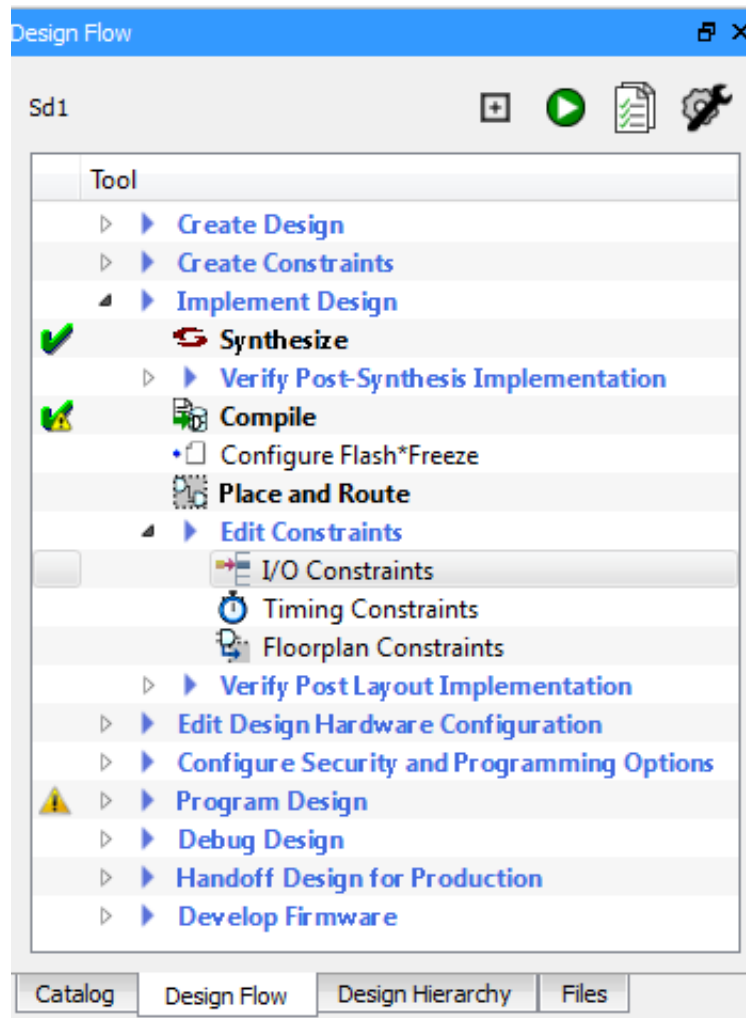

Figure 4 • I/O Constraint Editor Option part of the Design Flow
The Libero® SoC Software provides the option of reserving pins for moving between different devices within the SmartFusion2 family where pins within the current device that are not bonded in the destination device can be automatically reserved. This option is available in I/O Constraints Editor which can be accessed from the Design Flow window as shown in Figure 4. This is done in the early stages of the design cycle.
1. After finishing the **Compile** process, select the **I/O Constraints** option from the Design Flow window as shown in Figure 4.